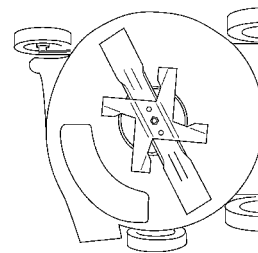

Figure 19
3. Tip the lawn mower onto its right side (Fig. 19).